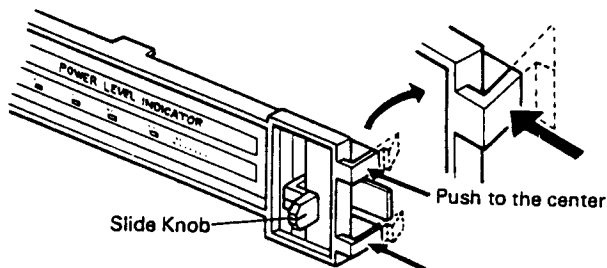

Fig. 3
2. Moving the claw of the LED Holder to the center as shown in the figure below, pull out the LED holder (Fig. 3).